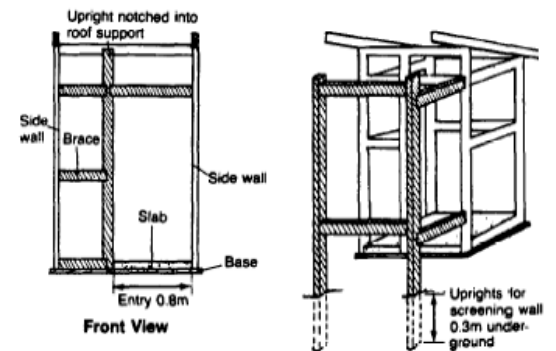

Figure 14. Framework for wooden shelter with screen
2. Erect the corner posts and uprights, making sure they are vertical, and nail them securely to the foundation. Leave at least .8m space for the entryway or doorway, as shown in figure 14. For a shelter with a door, the corner post on each side of the doorway serve as the door frame.
5. Begin the screening wall, if there is one, by erecting two uprights as shown in figure 14. Bury the ends .3 to .6m in the ground and thoroughly tamp. Nail crossbraces to the inside edges of the uprights.